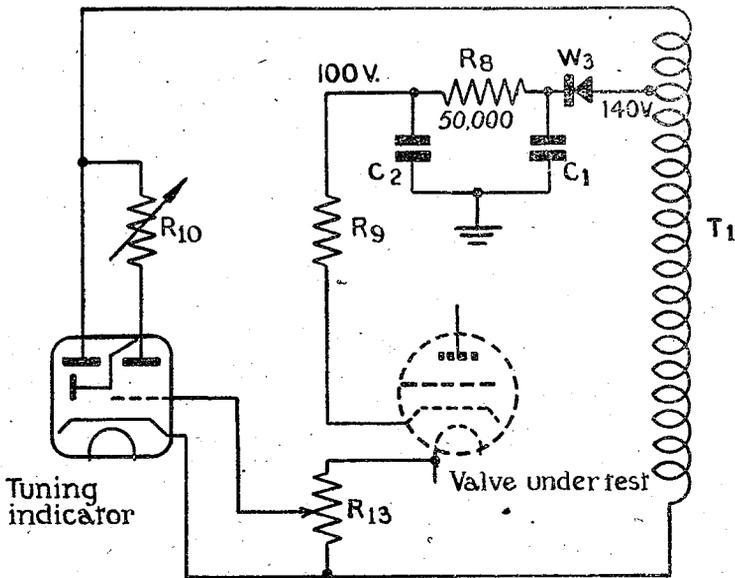

Fig. 3.—Cathode insulation test circuit
13. A simplified theoretical circuit diagram of the heater-cathode insulation test circuit is shown in fig. 3. A source of 100 volts, which is rectified by the metal rectifier W₀, is applied across the heater and cathode of the valve under test, through the 1-megohm resistance R₀.